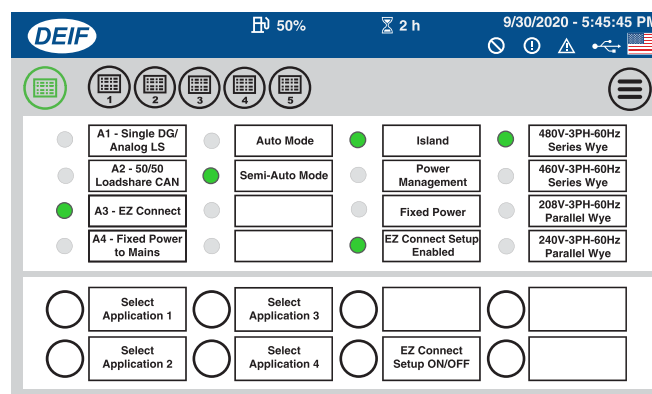

Figure 127. Main AOP Screen (EZ Connect)
- Once the application has been received, verify that the **Main AOP** screen is displayed (Figure 127).